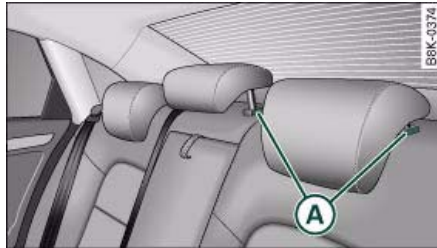

Fig. 80 Rear seats: Head restraint
- Press the button **A** ⇒ fig. 80 and push the head restraint downwards.